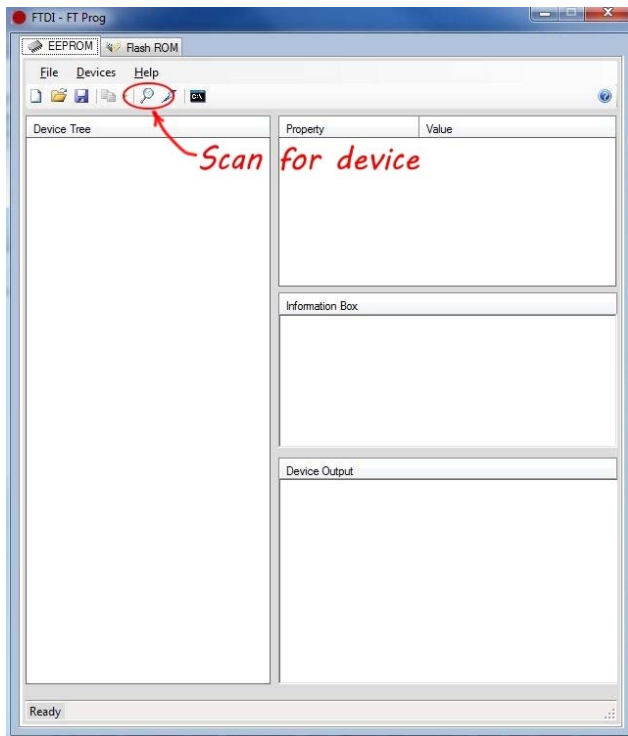

Figure 3 Scan for devices
Step 5. Scan the USB bus for USB-3000™ devices, by clicking on the "Scan and Parse" magnifying glass button on the toolbar (see Figure 3 Scan for device). Alternatively, select "Scan and Parse" from the "Devices" menu. Upon successful completion of the operation any connected USB-3000™ devices will be displayed within the "Device Tree" window, as shown below.